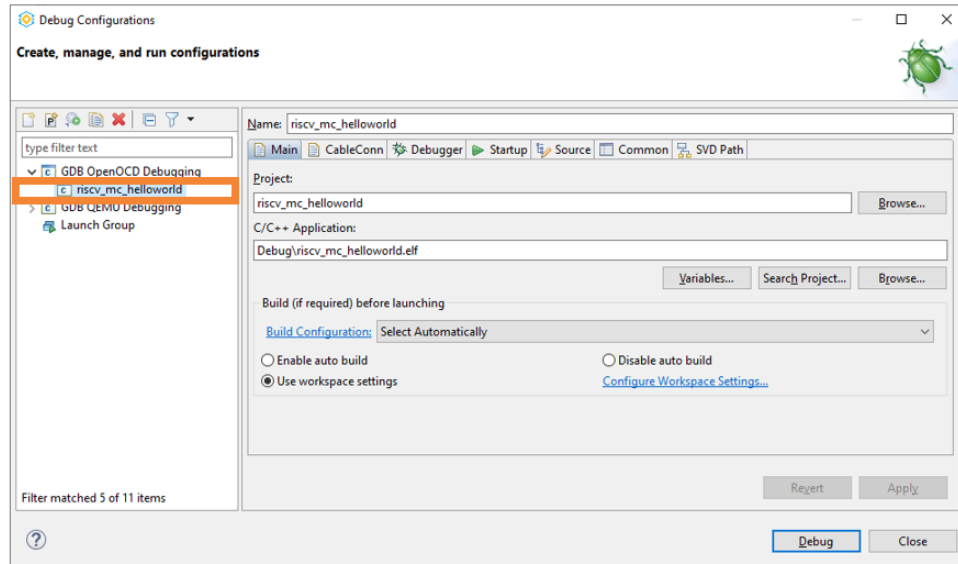

Figure 6.18. Debug Configurations Dialog 2
4. Choose the riscv_mc_helloworld item (Figure 6.18).